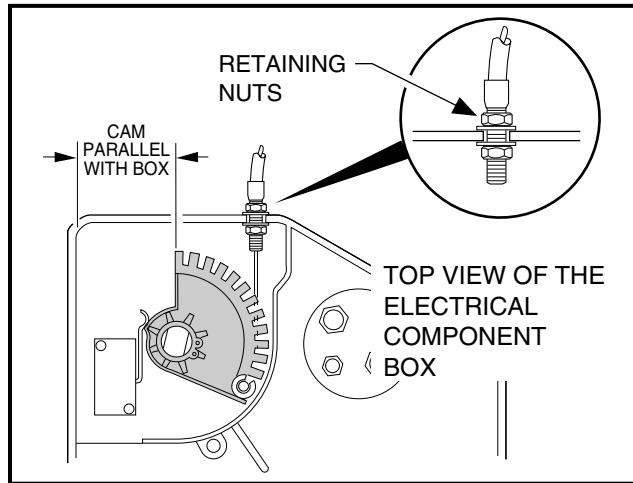

Figure 5-20 Accelerator Cable
- 5.2. Loosen the jam nuts (25) and disconnect the accelerator rod (17) at the accelerator pedal (**Figure 5-6, Page 5-8**). Adjust the length of the rod so the indicated cam edge is parallel with the edge of the electrical component box as shown (**Figure 5-20, Page 5-20**). **See following CAUTION.**